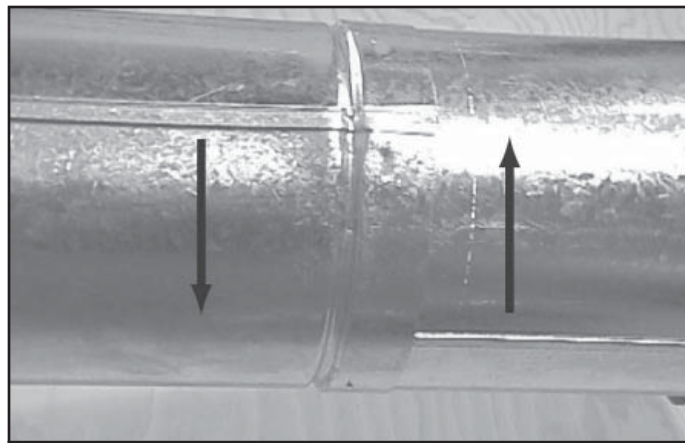
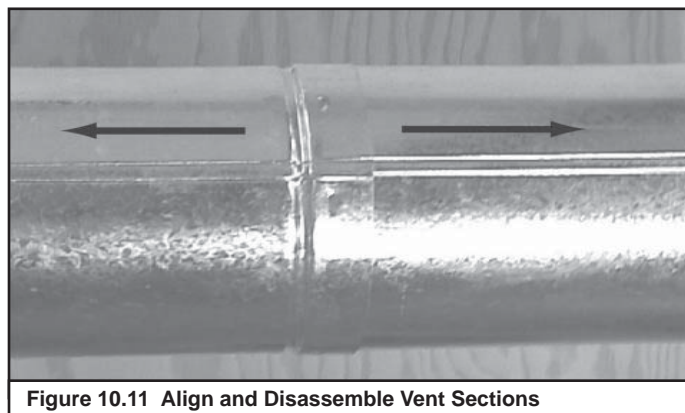

Figure 10.10 Rotate Seams for Disassembly
Figure 10.11 Align and Disassemble Vent Sections
- Rotate either section (see Figure 10.10) so the seams on both pipe sections are aligned as shown in Figure 10.11.